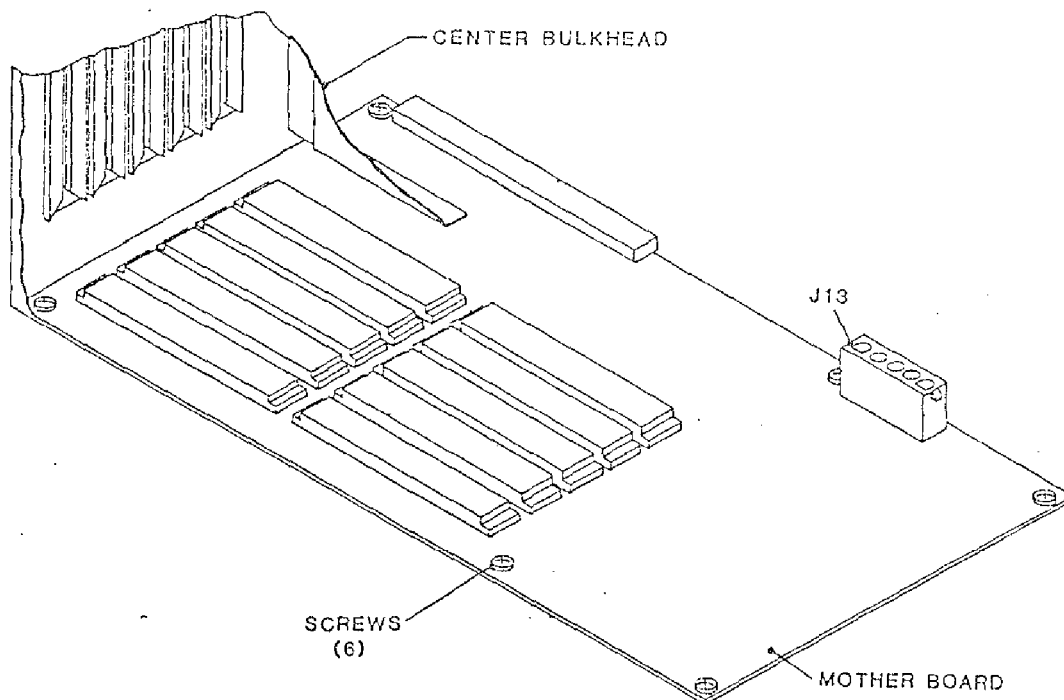

Figure 5-9. Mother Board
5.3.11 MOTHER BOARD PCBA (Fig. 5-9)